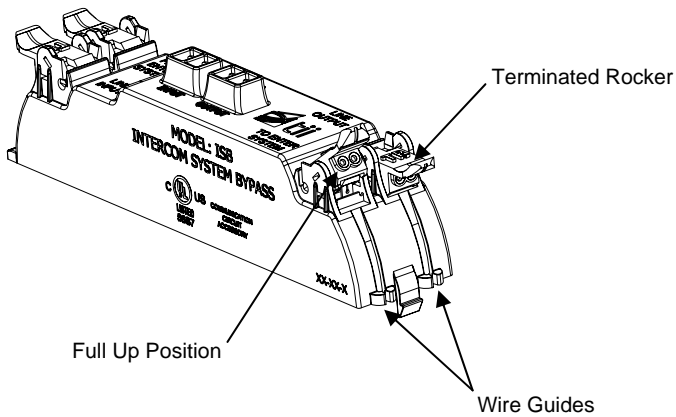

Figure 2
4. Lift the Line Input rocker for the Telco service wires to the full up position. DO NOT strip wires (See Figures 2 & 3).
5. Insert the Telco service wires into the wire guides simultaneously until they bottom-out. While holding wires in position, terminate into Line Input rocker by lowering to the full down terminated position (See Figures 2 & 3).
6. Lift the From Enter System rocker to its fully upright position. Insert the enter system output wires into the From Enter System marked rocker. While the wires are fully inserted, lower the rocker fully down to complete the Enter System Output wire termination (See Figures 2 & 3).
7. Terminate the customer wiring onto the Line Output rocker on the right side of the module. Insert wires into the customer rocker holes. While assuring that the wires are fully inserted lower the rocker to its fully seated position (See Figures 2 & 3).
8. Terminate wire pair serving as input to enter system at the rocker labeled To Enter System on the right side of the module. Follow the procedure described above for the wire pair termination (See Figures 2 & 3).
9. To keep wire pairs organized, route them through the molded wire guides (See Figure 2).